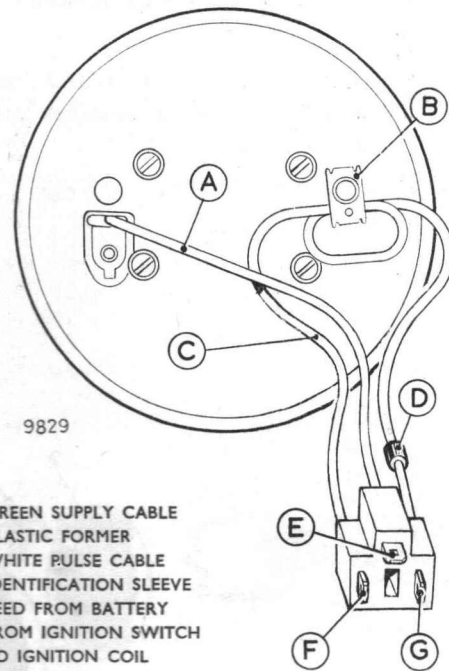

Fig. 42. Tachometer cable arrangement—early Stiletto
**TACHOMETER (See Figs. 42 and 43)**